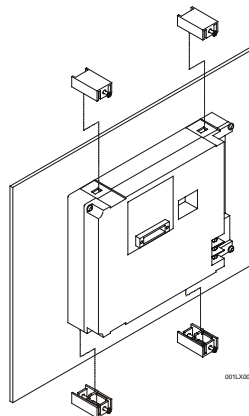

Figure 1 – Side View of LX with Mounting Clip (Shown as an Example)
4. Install and tighten the mounting clips (provided with the LX) until the gasket material forms a tight seal. Refer to Figure 1.